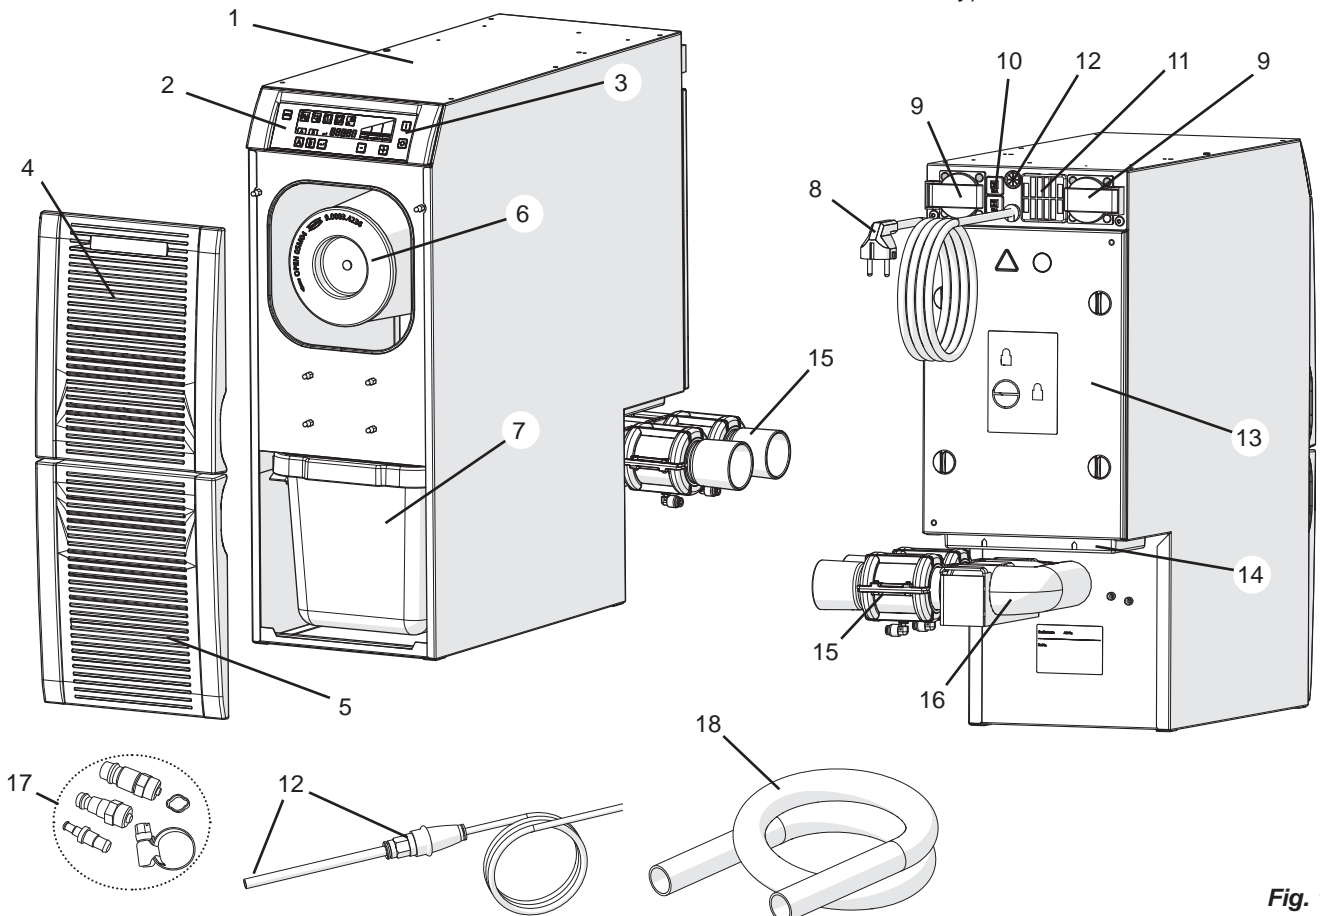

Fig. 1
- The exhaust vent (14, fig.1) is not blocked.
- ⇒ Switch the device OFF at the On / Off switch (3, fig.1)
- ⇒ Select the appropriate tube connection piece from the connection set (17, fig. 1) and attach to the end of the tube.